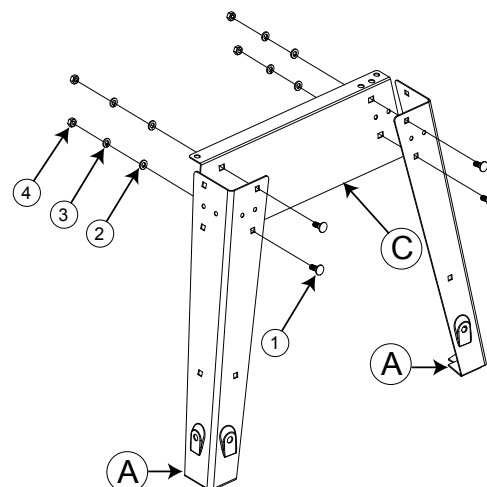

Fig. 3
3. Assemble the rear of the stand by attaching the remaining two legs marked A to the rear panel marked C (see Fig. 3). Make sure that the legs are in front of the rear panel. Bumps on the legs fit into holes in the rear panel to align the legs. Attach the legs to the rear panel using four M8 x 20 carriage bolts, four M8 washers, four M8 lock washers, and four M8 hex nuts. Do not fully tighten the nuts at this time.